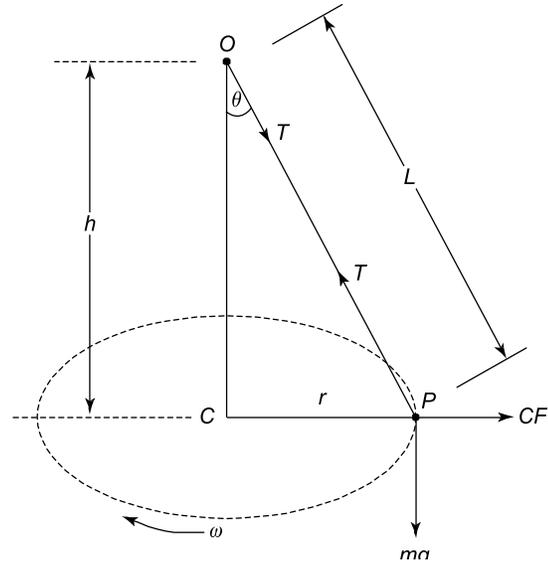

Figure 17.5 Conical pendulum
If a mass  $m$  were rotated at a constant angular velocity,  $\omega$ , in a horizontal circle of radius  $r$ , by a mass-less taut string of length  $L$ , its motion will be in the form of a cone, as shown in Figure 17.5.
**Problem 5.** Determine an expression for the cone angle  $\theta$  and the tension in the string  $T$ , for the conical pendulum of Figure 17.5. Determine also an expression for  $\omega$ .
From Figure 17.5,  $\sin \theta = \frac{r}{L}$  (17.15)
But, from Figure 17.5,  $\tan \theta = \frac{r}{h}$
$= \mathbf{0.11044 \text{ m}}$  (see Figure 17.5)